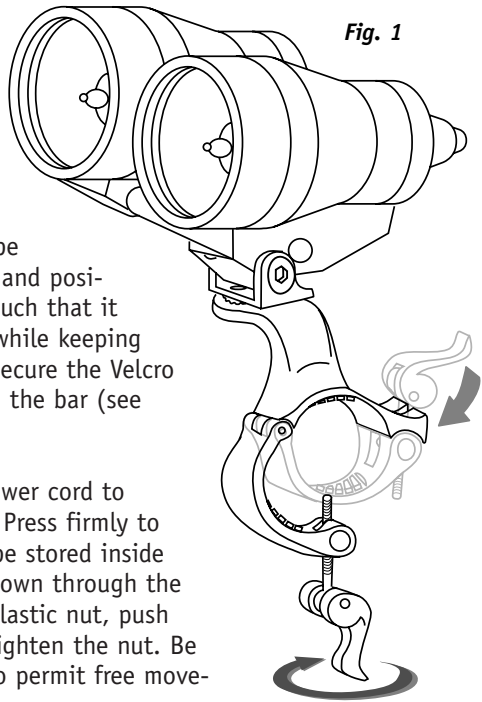

Fig. 1
2. Install the headlight assembly onto your handlebar so that the headlight is positioned over the stem (see Figure 1).
3. Open the Quick Release Clamp, close the clamp around your bar, rotate the Quick Release Lever into position on the upper part of the clamp (with the lever pointing up) and then flip the Quick Release Lever downward to lock the clamp into position (see Figure 1).